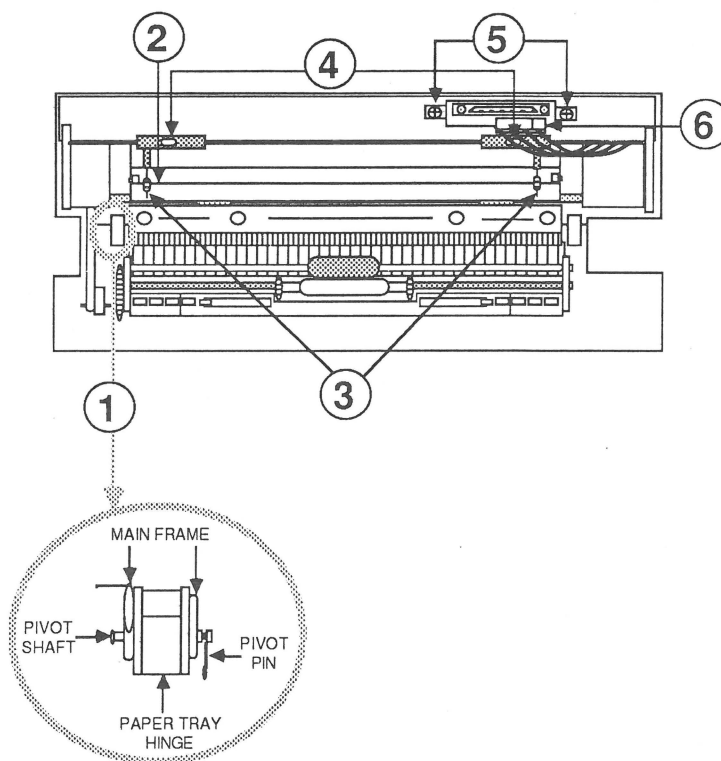

FIGURE 2
3. Line up the plastic hinges on both sides. Slide them into position. (Figure 2, #1 shows the left side.)
4. Use a pair of long, thin needlenose pliers to replace the pivot shaft (Figure 2, #1) on the left side. Slide the pivot pin onto the shaft (Figure 2, #1). Repeat this step for the right side.
5. Replace the paper guide (Figure 2, #2).
6. Replace the paper guide springs (Figure 2, #3).
7. Position the rear housing and the metal clamps (Figure 2, #4), and replace the two screws. Be sure the connector cable is in position.
8. Position the connector plate with the two springs underneath, and replace the two screws (Figure 2, #5).
9. Plug in the connector (Figure 2, #6).